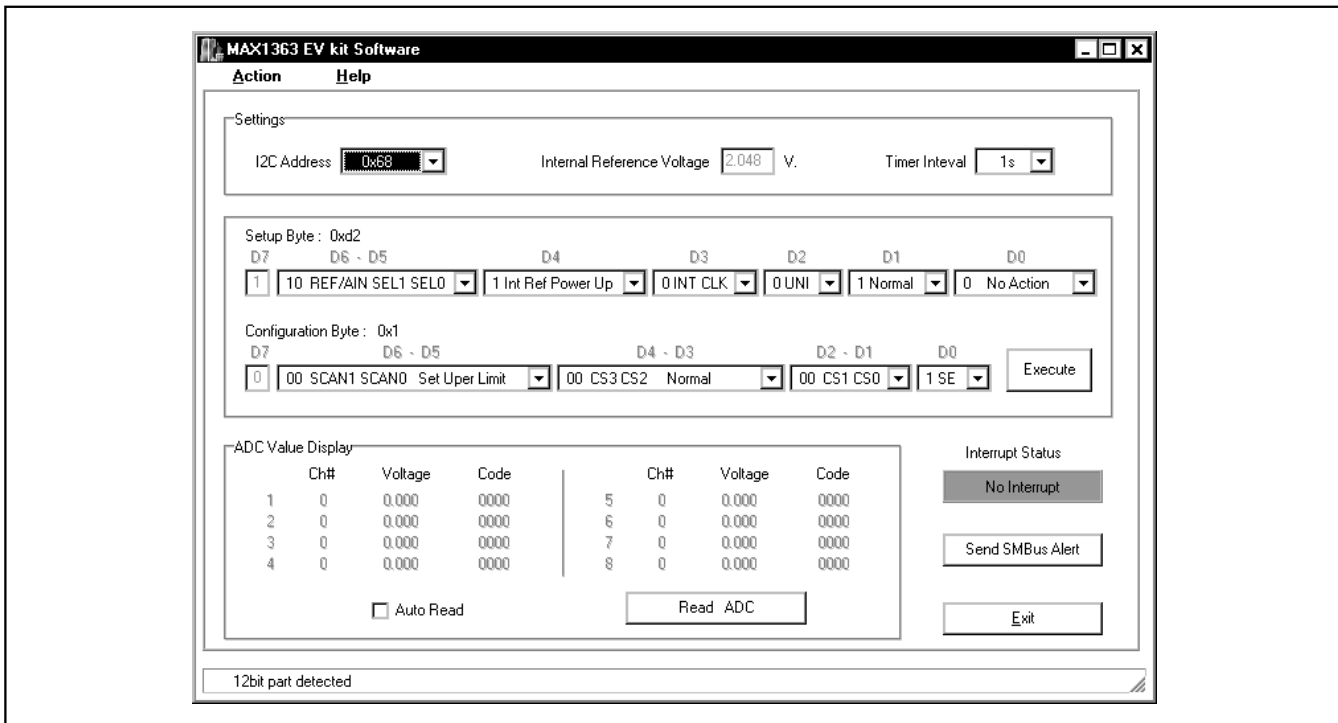
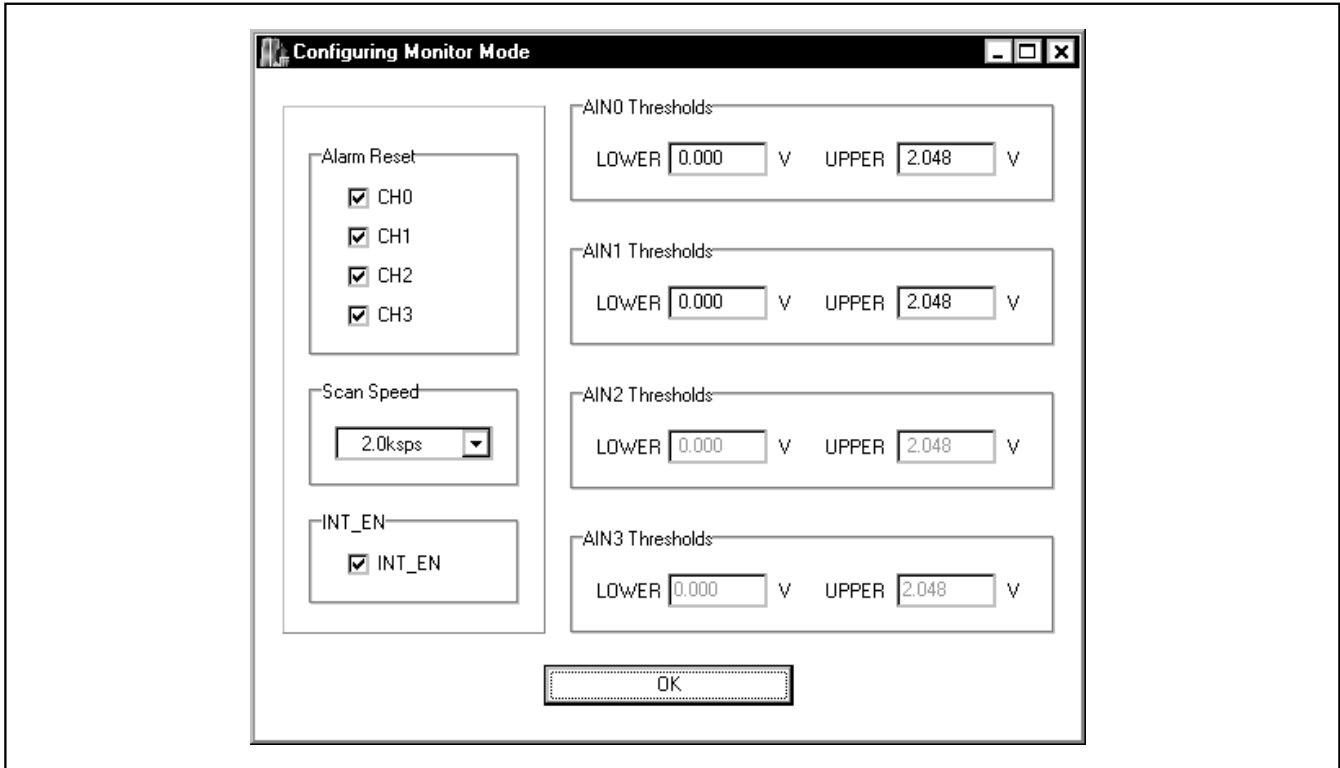

Figure 1. MAX1363 Evaluation Software Main Window
Figure 2. Configuring Monitor-Mode Window
- 8) In the middle of the main window, as shown in Figure 1, set the **Configuration Byte | D2-D1** pull-down menu to **00 CS1 CS0**. Set the **Setup Byte | D0** pull-down menu to **1 Monitor Setup**. The **Configuring Monitor Mode** window pops up as shown in Figure 2.
The evaluation software's main window is shown in Figure 1. The device's I²C address, reference voltage value, and **Timer Interval** pull-down menu are located at the top of the main window. The **Setup Byte** pull-down menus, **Configuration Byte** pull-down menus, and **Execute** button are located in the middle section. The **ADC Value Display** box is located at the bottom of the main window. The **Interrupt Status** indicator, **Send SMBus™ Alert** button, and **Exit** button are at the lower-right side of the main window.
The **I²C Address** pulldown menu shown in the top-left corner of Figure 1 autodetects the lowest MAX1361/MAX1363 device I²C address. If more than one MAX1361/MAX1363 device is connected to the I²C bus, the user can use the **I²C Address** pulldown menu to manually change the device's I²C address as shown in Table 1.
If the **1 Monitor Setup** is selected in the **Setup Byte | D0** pulldown menu, the **Configuring Monitor Mode** window pops up as shown in Figure 2. The user can reset the channel alarm bits by checking the proper channel in the **Alarm Reset** box. Select the **Scan Speed** pulldown-menu setting. Enable the interrupt by checking the **INT_EN** checkbox, and set the **LOWER** and **UPPER** edit fields to the desired value in the **AIN_ Thresholds** box. Depending on the **Setup Byte | D2 - D1** and **Setup Byte | D0** pulldown-menu settings, the threshold values for some of the channels may be grayed out.